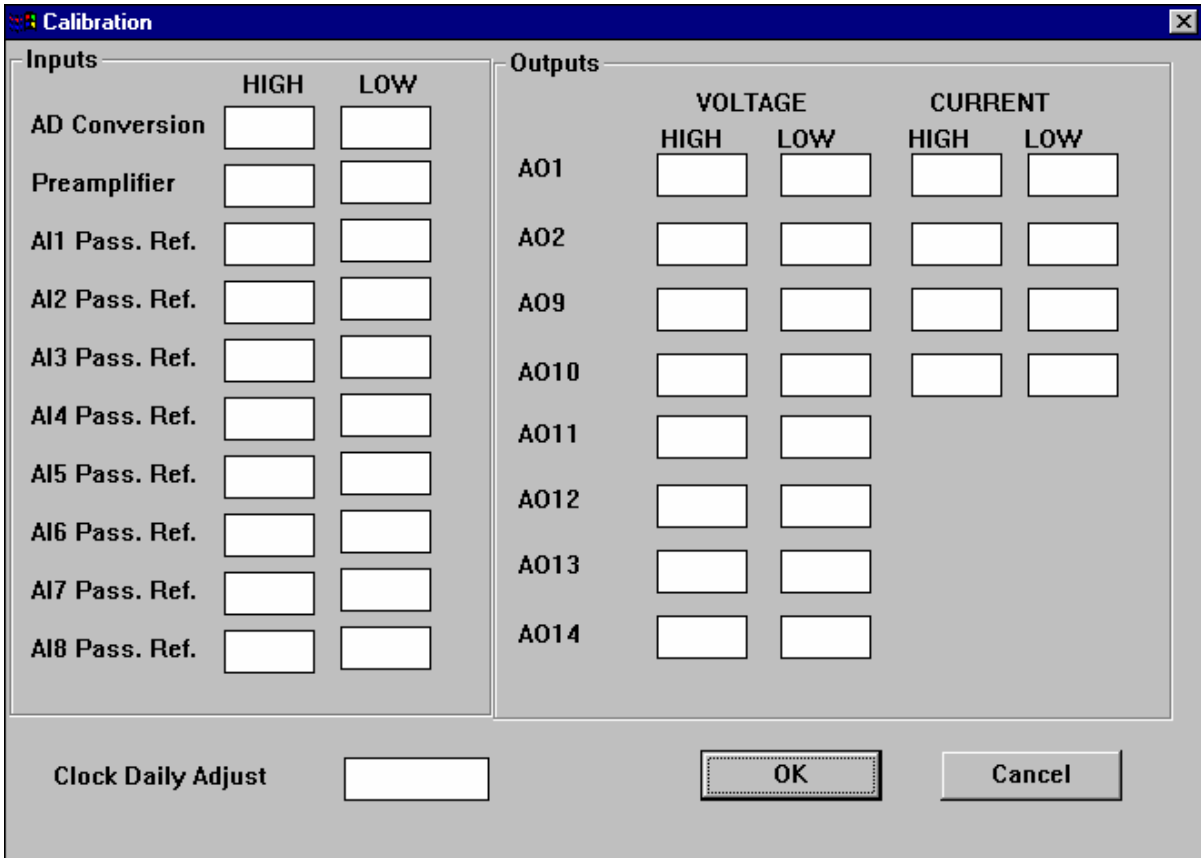

Figure 4-7: Calibration Dialog Box
2. On the Edit menu, click Calibration. The Calibration dialog box appears (Figure 4-7).